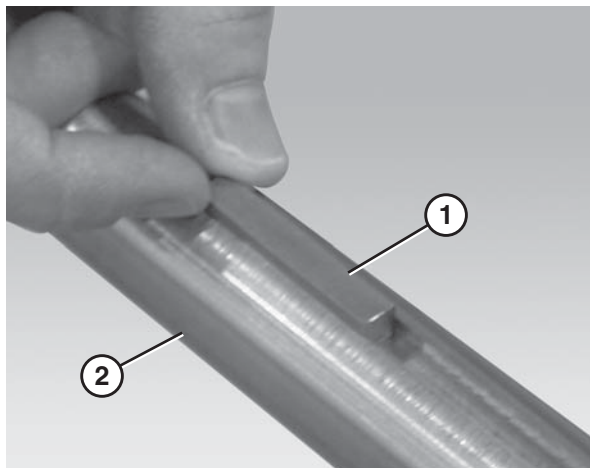

Figure 5
1. Insert the drive spindle key (Figure 5, item 1) into the drive spindle keyway (Figure 5, item 2).